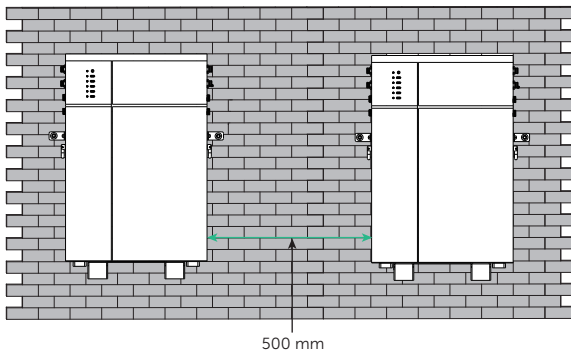

Figure 6-1 Installation options
- The Figure 6-1 takes two battery modules as an example.